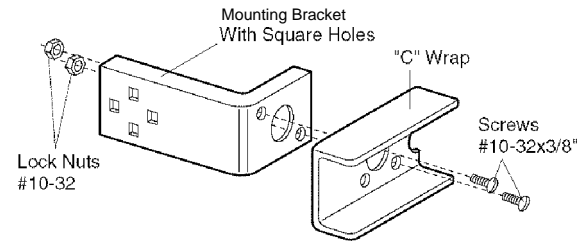

Figure 2
2. Connect each assembly to a slotted bracket, using the hardware shown on Figure 2. **Note alignment of brackets for left and right sides of door.**
4. Use bracket mounting holes as a template to locate and drill (2) 3/16" diameter pilot holes on both sides of the garage door, 4"-6" above the floor **but not exceeding 6"** (see warning on page 20).
5. Attach bracket assembly with 1/4"x1-12" lag screws as shown in Figure 2.